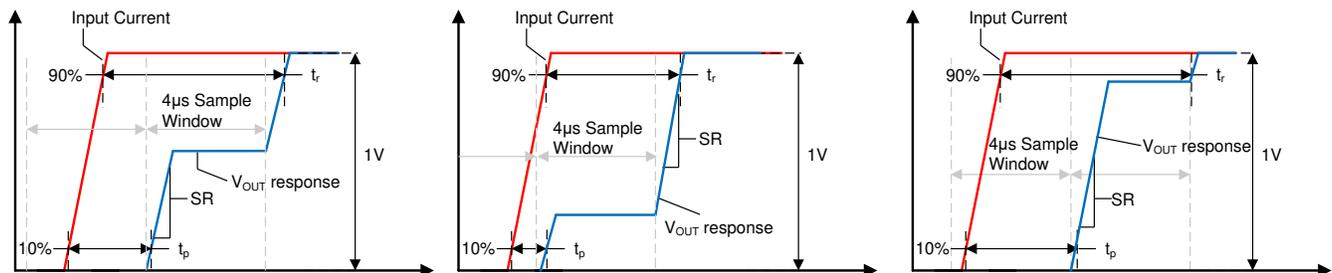

Figure 8-3. Small Current Input Step Transient Response
Slew rate (SR) is defined as the  $V_{OUT}$  rate of change for a single integration step's output transition, as shown in Figure 8-3. Because the device often requires two sampling windows to reach a full 90% settling of its final value, this slew rate is not equal to the 10%-90% transition time for the full output swing.
Propagation delay is the time period between the input current waveform reaching 10% of its final value and  $V_{OUT}$  reaching 10% of its final value. This propagation delay is heavily dependent upon the alignment of the input current step and the sampling period of the TMCS1108, as shown for several different sampling window cases in Figure 8-3.
Response time is the time period between the input current reaching 90% of its final value and the output reaching 90% of its final value, for an input current step sufficient to cause a 1-V transition on the output. Figure 8-3 shows the response time of the TMCS1108 under three different time cases. Unless a step input occurs directly during the beginning of one sampling window the response time will include two sampling intervals.